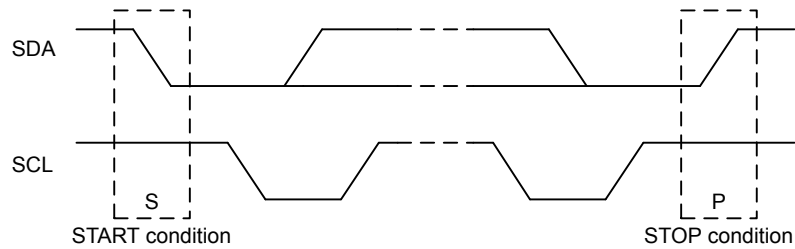

Figure 23.4. I²C START and STOP Conditions
START and STOP conditions are used to initiate and stop transactions on the I²C-bus. All transactions on the bus begin with a START condition (S) and end with a STOP condition (P). As shown in Figure 23.4 I²C START and STOP Conditions on page 725, a START condition is generated by pulling the SDA line low while SCL is high, and a STOP condition is generated by pulling the SDA line high while SCL is high.